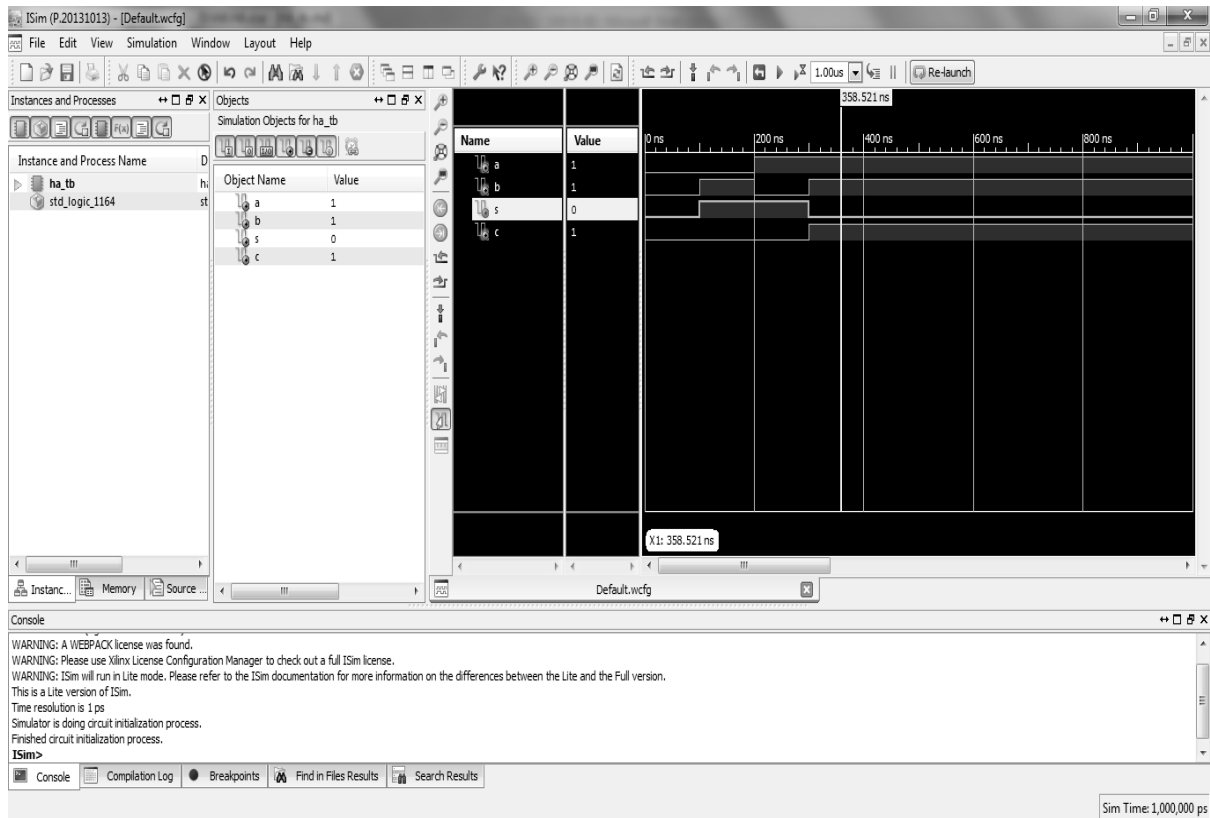

Fig 5.8 HA Simulation output
9. ISim simulator window will open with simulation executed, as shown in Fig. 5.8 where one can simulate designs and check for errors.